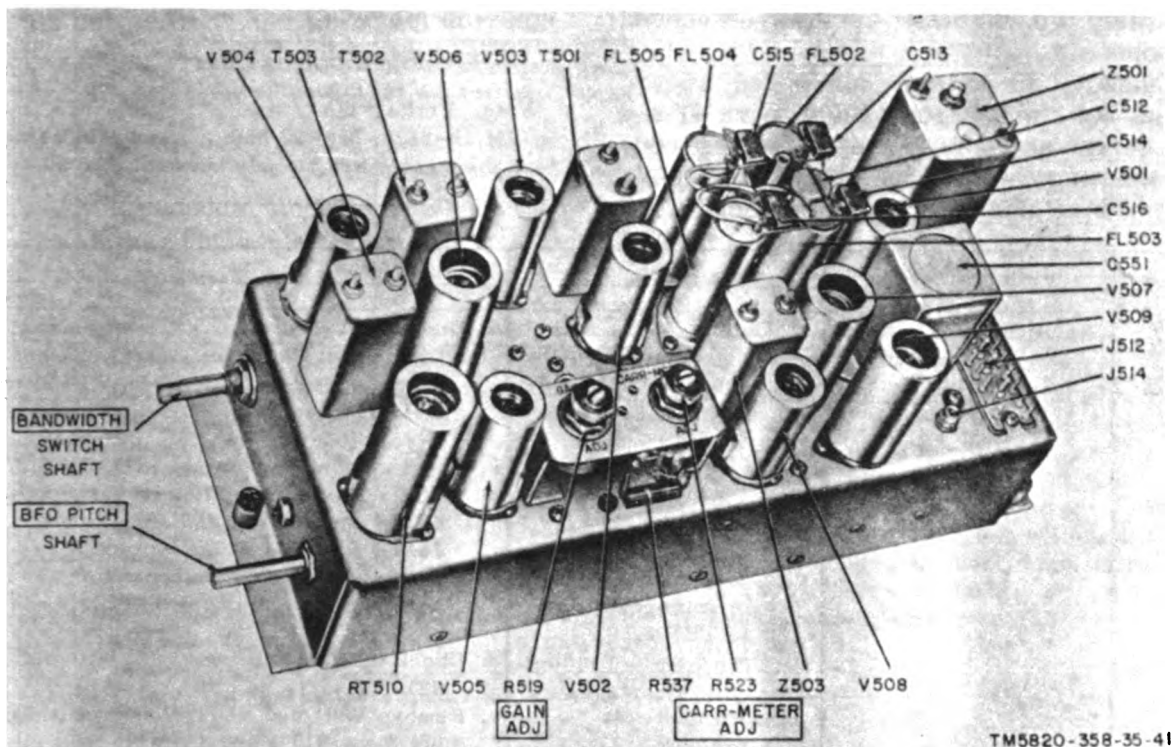

Figure 38. Unmodified if. subchassis, top view.
g. If the AN/URM-25(*) output is above or below the limits set in f above, readjust the AN/URM-25(*) output for 2 microvolts. Adjust GAIN ADJ control R519 (fig. 38) for a TS-505(*)/U indication of -7 volts. If this adjustment fails to restore normal operation, the fault is in the rf, the if., or the detector portion of the receiver.